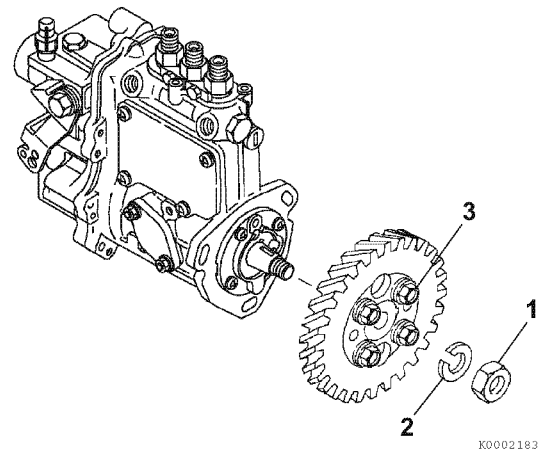

Figure 7-17
15. Do not loosen or remove the four bolts (**Figure 7-17, (3)**) holding the pump drive gear to the hub. Only remove the single drive gear nut (**Figure 7-17, (1)**) and washer (**Figure 7-17, (2)**), leaving the hub attached to the gear.
16. Hold the gear train stationary using a large socket wrench on the crankshaft pulley bolt. Loosen the fuel injection pump drive gear retaining nut (**Figure 7-17, (1)**) and turn it out to the end of the fuel injection pump shaft.